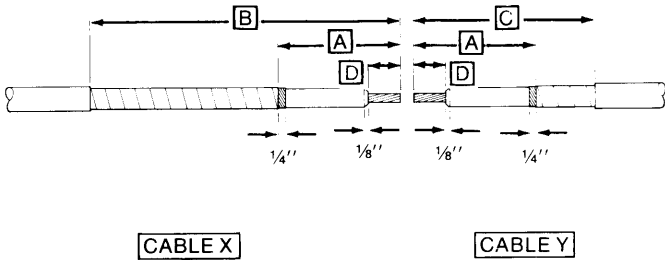

Figure 1
2. Remove jacket to distance B and C for cables "X" and "Y" respectively (Figure 1, Table A).